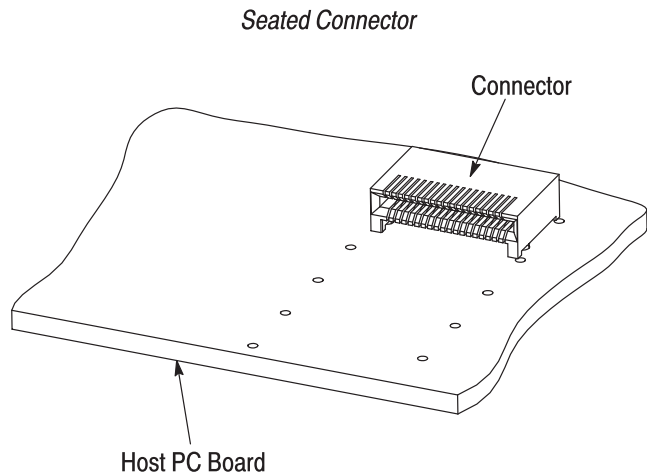

Figure 4
1. Install the connector onto the host pc board according to Application Specification 114-13221. Refer to Figure 4. Solder the connector to the pc board before seating the cage assembly.